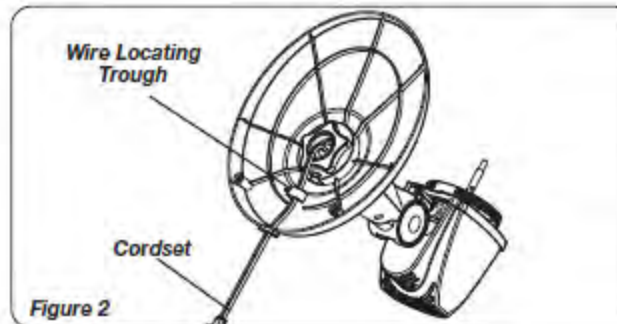

Figure 2
- Gently pull any excess slack of the *Cordset* and place it in the *Wire Locating Trough*. (Figure 2)